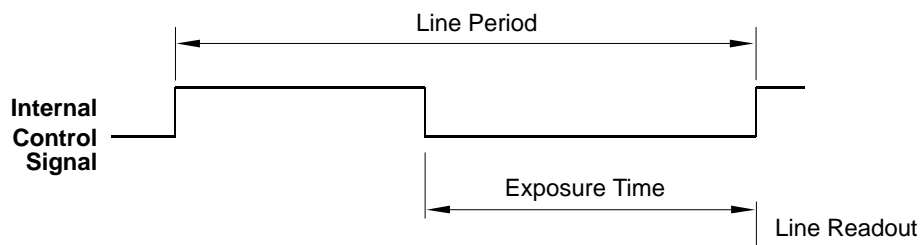

Fig. 56: Free Run, Programmable Mode
- In **free run programmable** mode, line acquisition begins on the rising edge of the ExSync signal. The pixels are exposed and charge is accumulated when the internal control signal is low. The pixel values are read out of the sensor on the rising edge of the internal control signal as shown in Figure 56 on page 104.